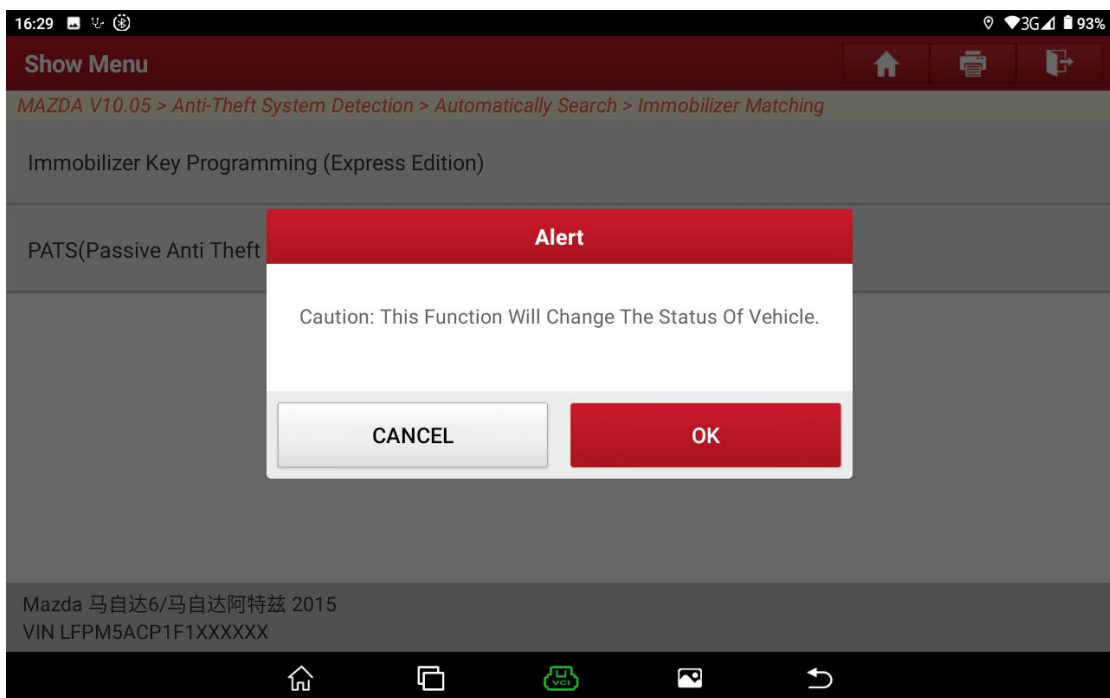

Figure 8
6. A warning prompt is displayed. See Figure 8.